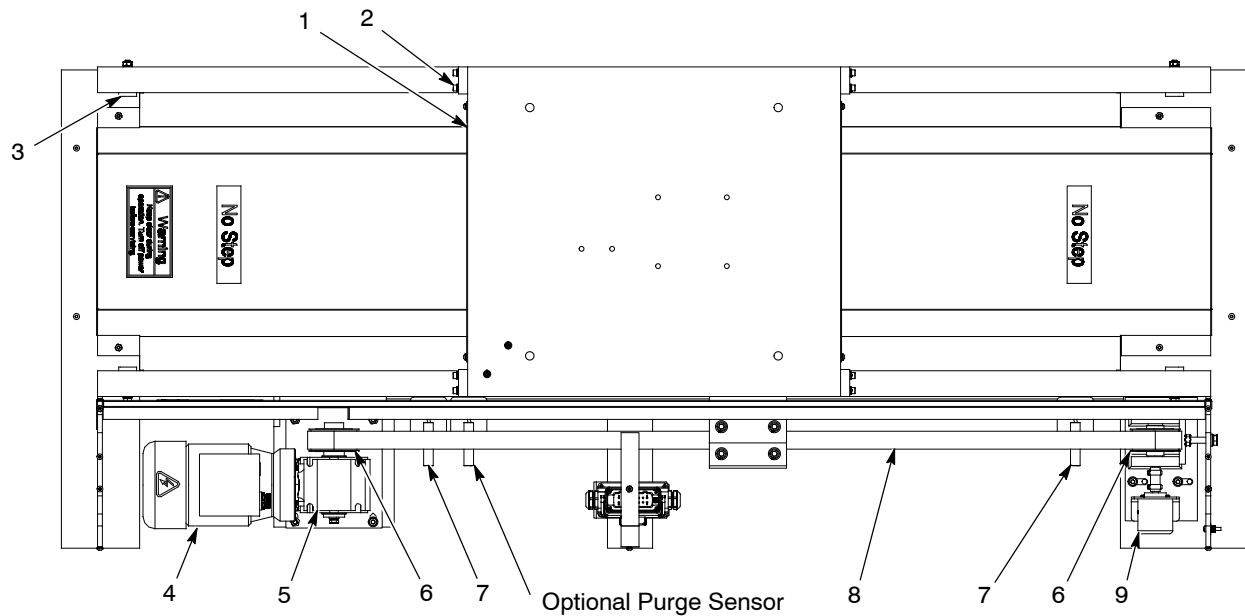

Figure 14 Positioner Maintenance
See Figure 14, item 8.
See Figure 14, items 4 and 5.